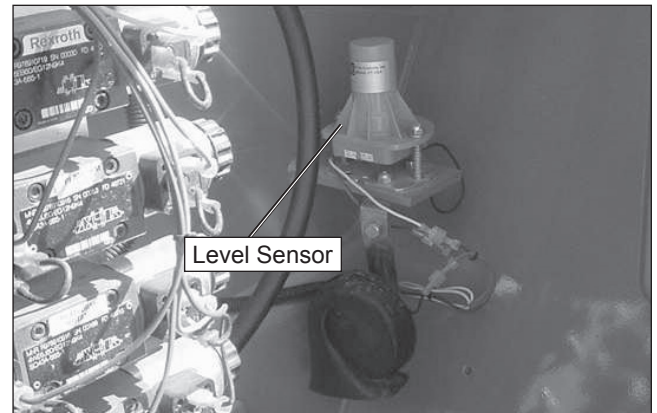

Figure 7.17 – Level Sensor
4. Open the rear door on the left side of the machine to access the level sensor (refer to Figure 7.17).